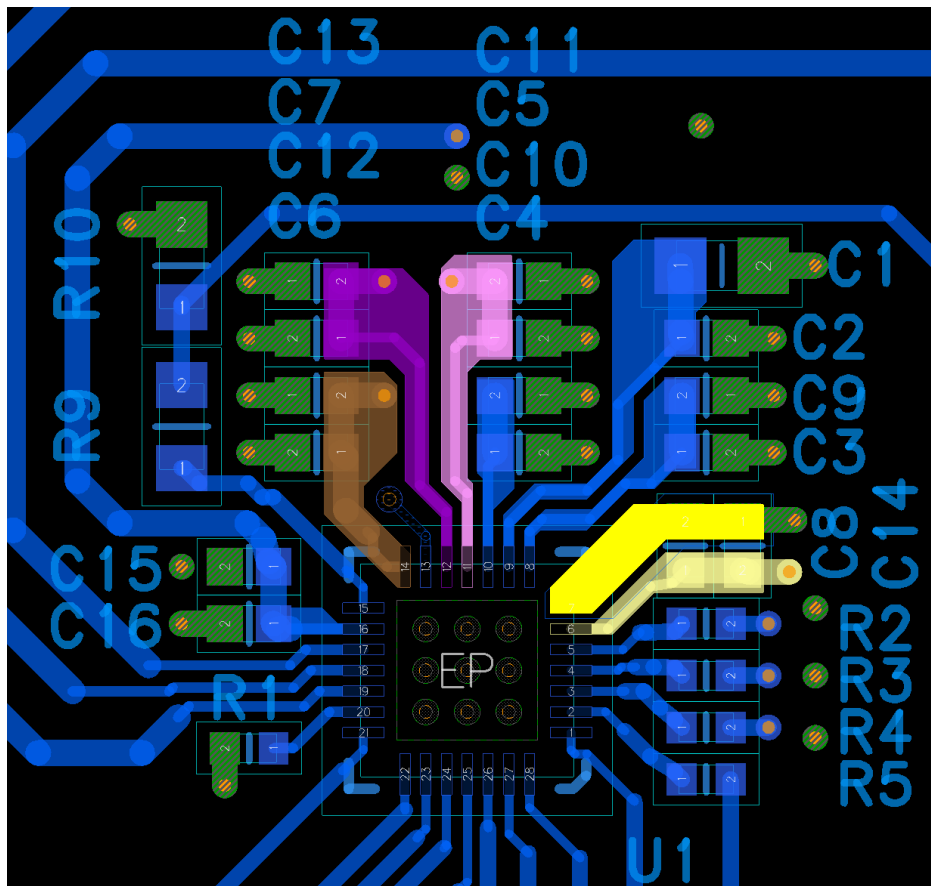

Figure 1 - Device Decoupling with VDD_IO decoupling GND highlighted
- Route VDD_IO decoupling GND to pin 7 (Figure 1).